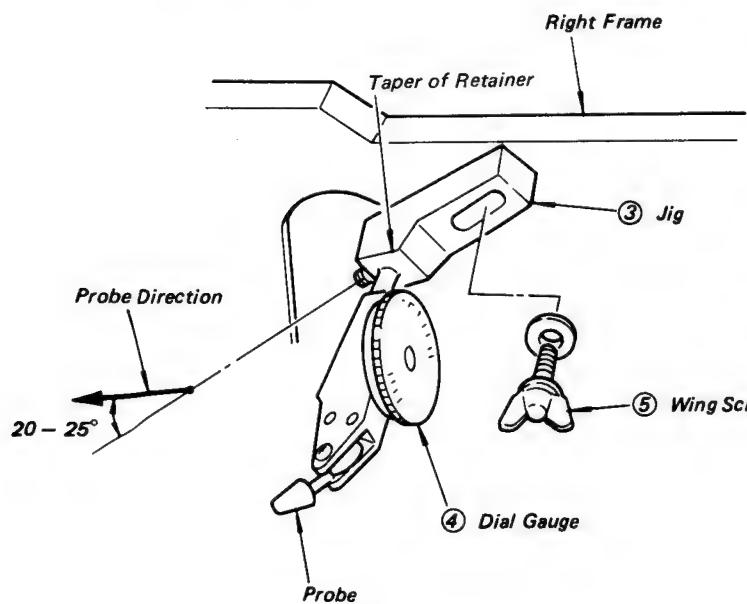

Fig. 5-105 Adjusting the Eccentricity Gauge
2. Remove the two screws **②** holding the cassette opener, and move the cassette opener to the cylinder assembly side.
3. Reassemble the retainer of eccentricity gauge **③** as the taper of retainer should be come inside and the scale **④** is in the vertical position. (see Fig. 5-105)
4. Fix the eccentricity gauge **③** with the wing screw **⑤** on the right frame of chassis.
5. Position the probe of eccentricity gauge **③** should be come the top of video head disk assembly.
**NOTE:** The gauge of the probe and the retainer of eccentricity gauge should be kept about 25 degrees. (see Fig. 5-105)